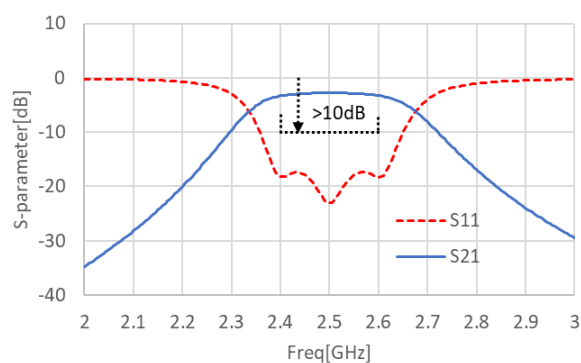

Figure 2 Target specification of S11
- (c) Return loss : The filter should have more than 10 dB return loss over the above mentioned frequency range. (Figure 2)